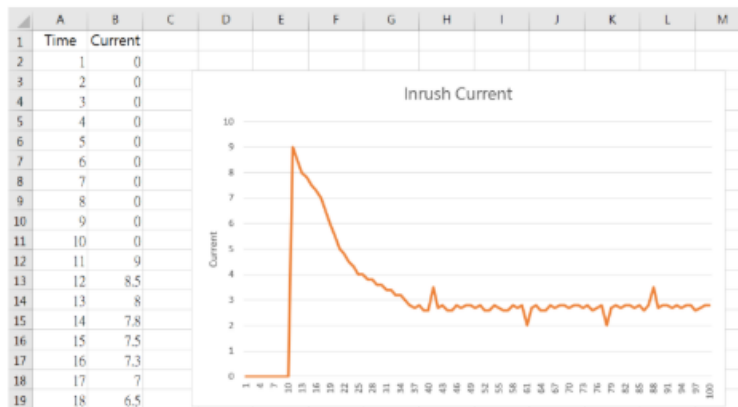

Figure 3. Setting up the load current waveform in Excel
1. Configure the load current waveform required using Excel, as shown in Figure 3 below.